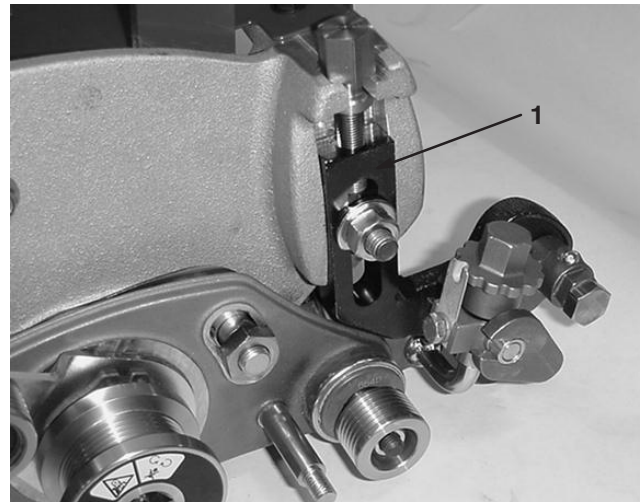

Figure 37
5. Remove carriage bolt, nut, and washer securing height-of-cut arm assembly to side plate (Fig. 37).